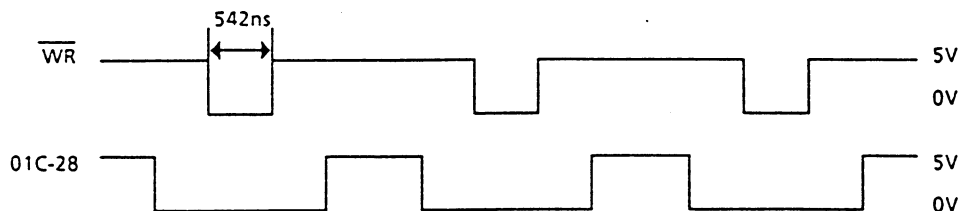

Figure E-8
• Yes Are, \overline{WR} , and BUS signals of 01C pin 28 as specified in Figure E-8?